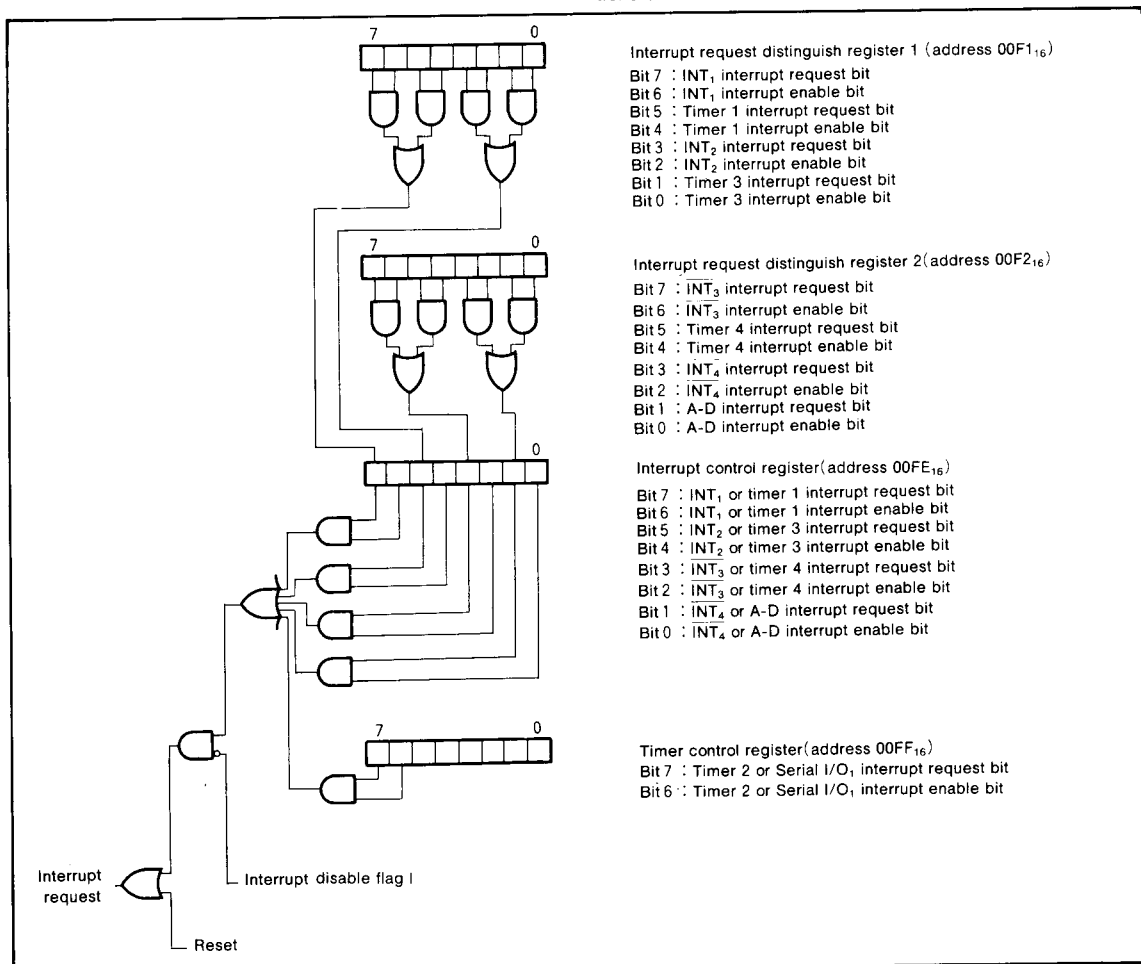

Fig. 3 Interrupt control
These interrupts are vectored and their priorities are shown in Table 1. Reset is included in this table since it has the same function as an interrupt. When an interrupt is accepted, the contents of certain registers are pushed into specified locations, as discussed in the stack pointer section, and the interrupt disable flag (1) is set, and the program jumps to the address specified by the interrupt vector, and the interrupt request bit is cleared automatically. The reset interrupt is the highest priority interrupt and can never be inhibited. Except for the reset interrupt, all interrupts are inhibited when the interrupt disable flag is set to "1". All of the other interrupts can further be controlled individually via the interrupt control register shown in Figure 3. An interrupt is accepted when the interrupt enable bit and the interrupt request bit are both "1" and the interrupt disable flag is "0". The interrupt request bits are set when the following conditions occur: